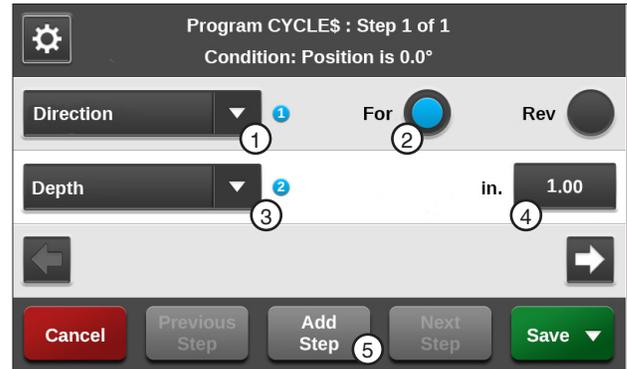

Figure 139-1 1. Direction Command 2. Forward 3. Depth Command 4. Inches 5. Add Step
5. Enter the commands to be executed. Refer to Figure 139-1.